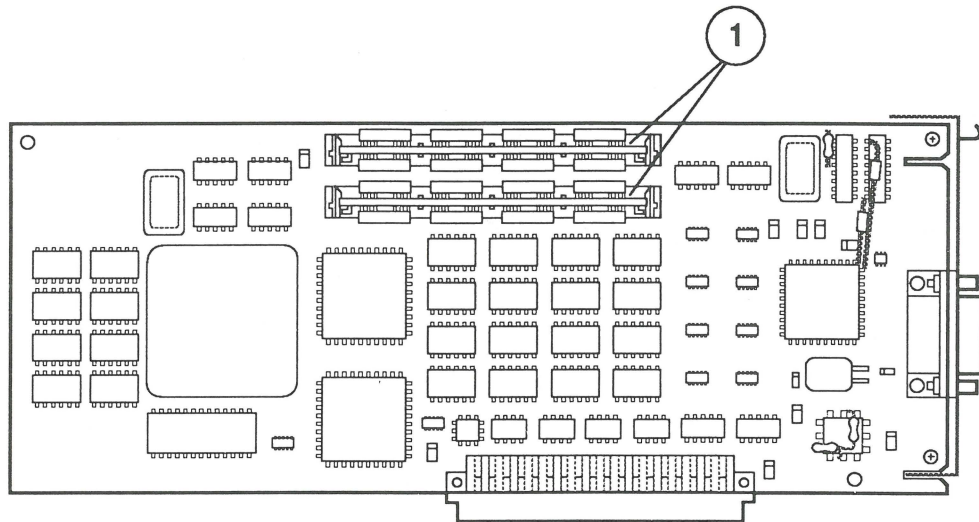

FIGURE 9
IPL.15	Macintosh Display Card 8/24•GC (Figure 9)
□ MACINTOSH DISPLAY CARD 8/24•GC (Figure 9)